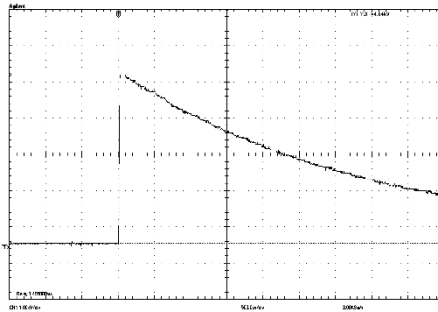

Figure 5. Vpeak = 4.72kV with 500uH inductor
- a. V_{peak} about 4.72KV, see figure 5 (When selected inductor is 500uH).